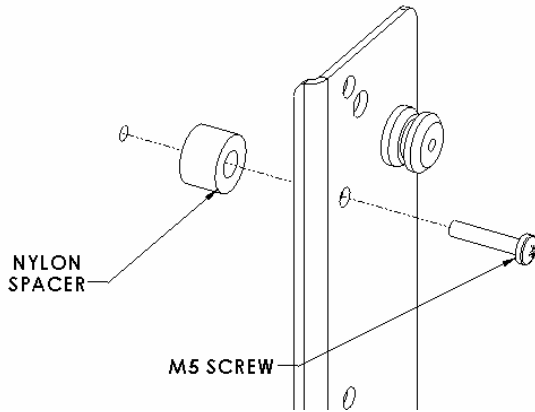
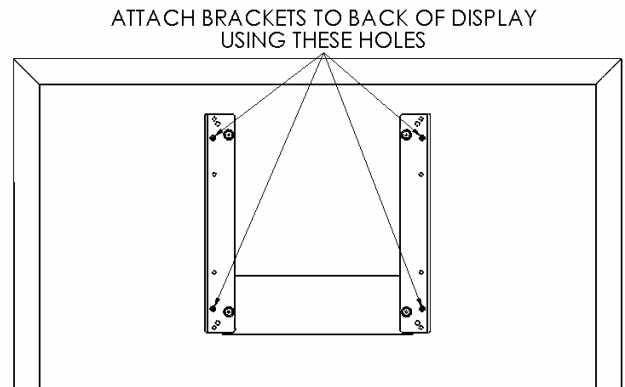

Figure 4
Figure 5
3. Place Nylon spacers over mounting holes on back of screen. Attach mounting brackets to the display using the M5 screws (see Figure 4 & Figure 5).